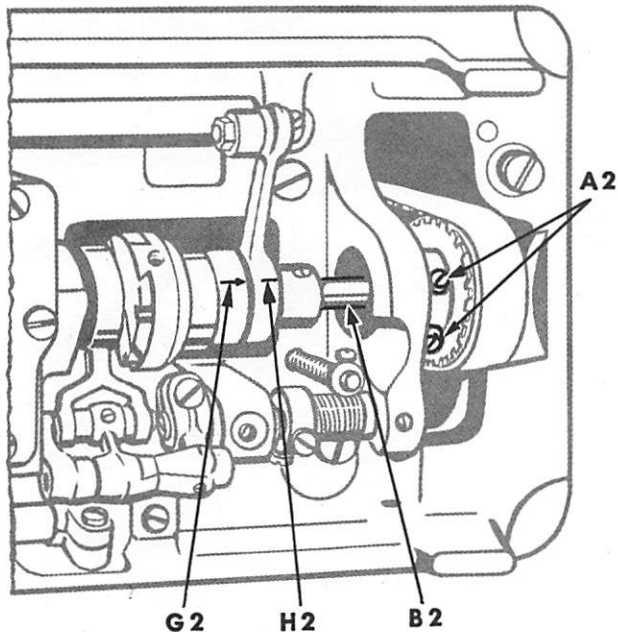
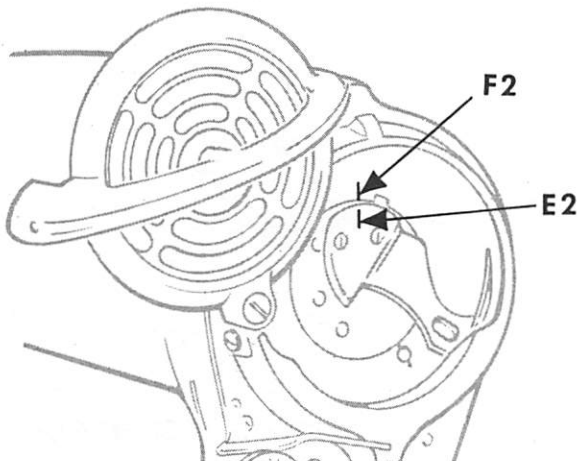

Fig. 50 Timing the Feed
Fig. 51 Timing Marks on Take-up and on Face Plate
- Timing line **G2**, Fig. 50 on feed driving eccentric collar in line with timing line **H2** on feed lifting connection, as shown in Fig. 50, at same time that timing line **E2**, Fig. 51 on rotary take-up is in line with timing line **F2** on face plate, as shown in Fig. 51.
- Loosen two screws **A2**, Fig. 50 on pulley.
- Turn hook driving shaft **B2**, Fig. 50, as required to obtain desired feeding movement.